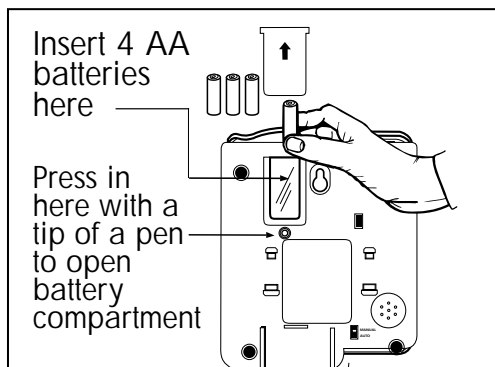

Figure 3 - Accessing the Batteries
1. Slide open the battery compartment cover on the bottom of the telephone (Figure 3). You may need to press the tip of a pen into the opening under the battery door or with the tip of a pen.